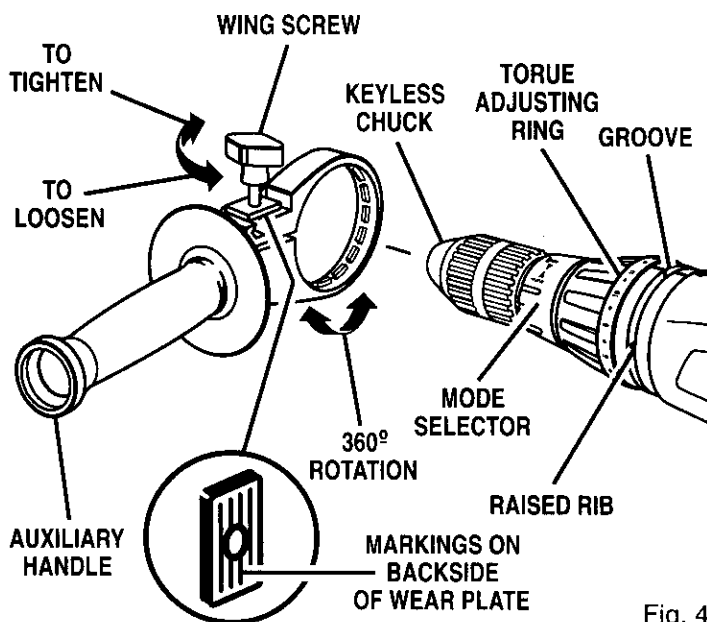

Fig. 4
See Figure 4.
- Note:** If wing screw and wear plate is removed from auxiliary handle, when reassembling, the markings on the wear plate must be positioned as shown in Figure 4. This prevents the depth gage rod from slipping. See Figure 4.
- Orient depth gage rod so that markings on depth gage rod face markings on wear plate. See Figure 4. Insert depth gage rod through hole on auxiliary handle.